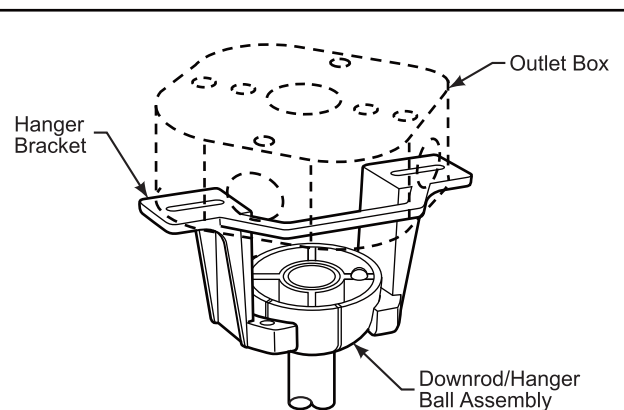

Figure 4
4. Slide downrod into the downrod support on top of the motor. Install the clevis pin by aligning the holes in the downrod support with holes in the downrod. Secure clevis pin with hairpin clip. Tighten the two set screws with nuts in the downrod support. (Figure 4)
2. Carefully lift the fan and seat the downrod/hanger ball assembly onto the hanger bracket that was just attached to the outlet box. Be sure the groove in the ball is lined up with tab on the hanger bracket. (Figure 4) This fan is intended for standard and angled mounting options only. Closemount and flushmount options are not available. For angled ceilings, note the angle can be no more than 19°.
4. Assemble the light kit assembly to the adapter switch housing using the previously removed screws and securely tighten all screws. (Figure 4)